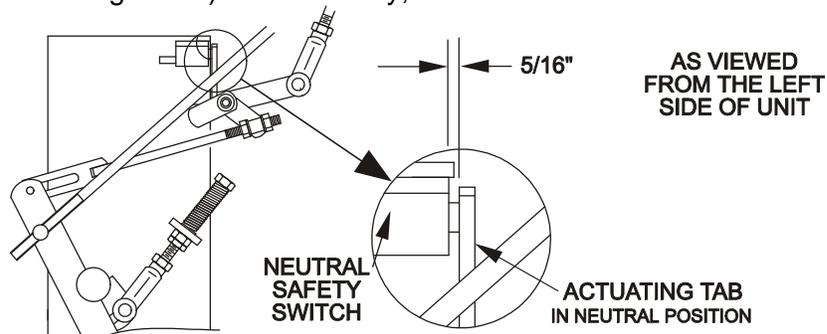

FIGURE 12
2. Move the speed control lever (located on the console) to the full forward position and check the orientation of the tabs on the ends of the speed control crank (Figure 12). These tabs should be pointing straight down at the 6 o'clock position or slightly forward. Adjust the threaded yoke at the bottom of the speed control linkage (Figure 12) until the tabs are positioned correctly.
3. Pull the speed control lever back to neutral. Check that the neutral safety switch actuating tab has depressed the plunger of the switch so that there is about 5/16" (.79 cm) between the tab and the switch (See Figure 12). If necessary, move the switch fore and aft.